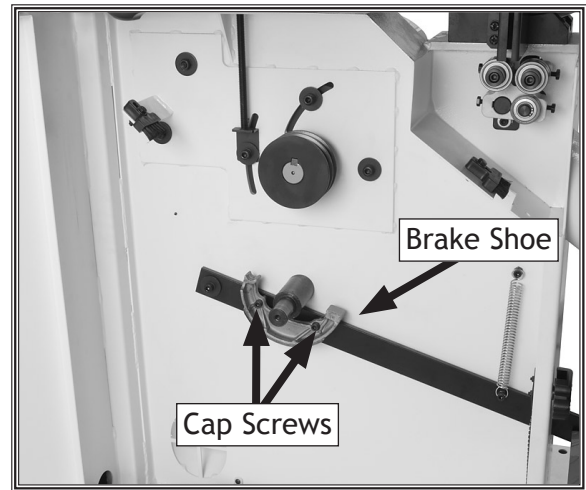

Figure 72. Brake shoe location.
3. Remove the cap screws, lock washers, and bushings that secure the brake shoe to the brake lever, then remove the brake shoe (see Figure 72).